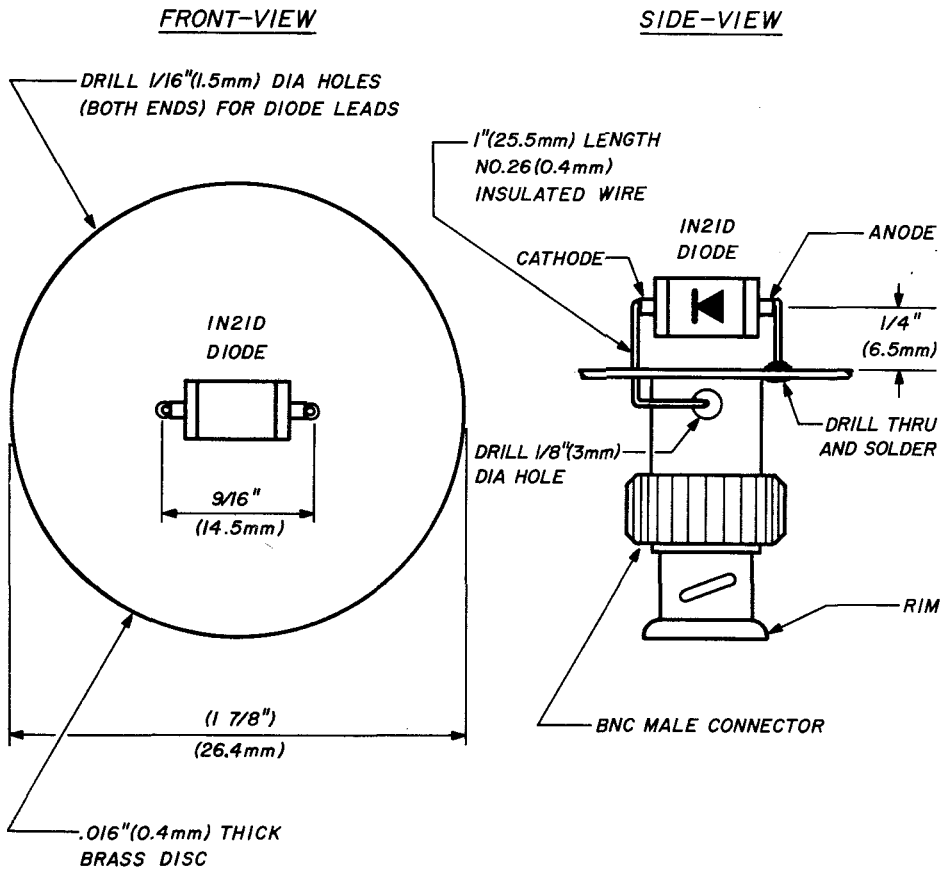

Figure 12-8.
The solution to the “too-much 10 GHz signal” problem was to greatly simplify the final version of the multiplier-antenna assembly, as shown in *Figure 12-8*. The E matching network was eliminated entirely, leaving only a male BNC connector, a 1- $\frac{7}{8}$ -inch (26.4-mm) diameter brass reflector, and the 1N21D diode-dipole antenna, which was sort-of “matched” with a 1-inch (25.5-
Details for building the *Crystalmatic* multiplier antenna arrangement are shown in *Figure 12-8*. Step-by-step instructions are as follows:
4. Drill $\frac{1}{8}$ -inch (3-mm) diameter hole through BNC connector about $\frac{1}{4}$ inch (6.5 mm) from end, as shown in the side view of *Figure 12-8*.
11. Quickly solder the 1N21D anode (arrow side) to a $\frac{3}{8}$ -inch (9.5-mm) length of no. 16 (1.3 mm) bus bar wire. Push the wire through one of the $\frac{1}{16}$ -inch (1.5-mm) diameter holes in brass reflector. Solder both sides of reflector to this wire so that the 1N21D center is spaced $\frac{1}{4}$ inch (6.5 mm) away from the reflector. (See *Figure 12-8*.)